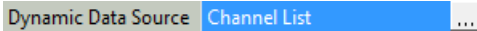

FIG. 149 Dynamic Data Source property indicating "channelList.csv"
4. The selected Data Source file is indicated in the *Dynamic Data Source* property (see "Channel List" in FIG. 149):